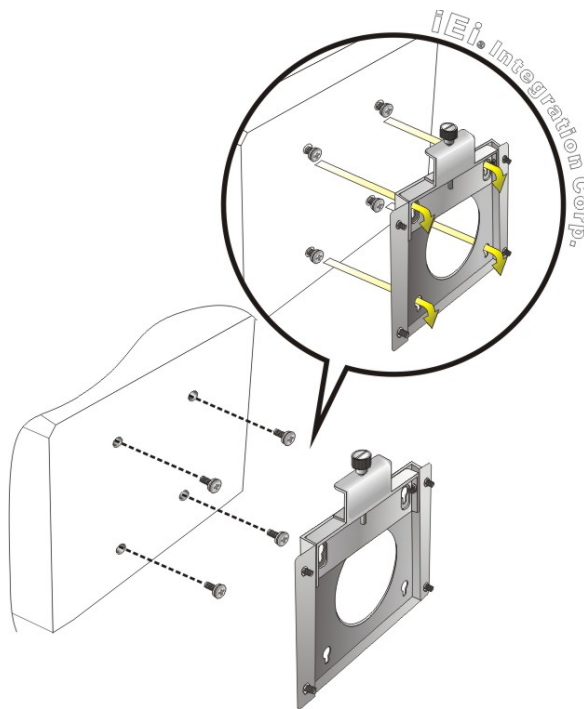

Figure 3-22: Chassis Support Screws
Step 6: Insert the four monitor mounting screws provided in the wall mount kit into the four screw holes on the rear panel of the panel PC and tighten until the screw shank is secured against the rear panel (**Figure 3-22**).
Step 8: Carefully insert the screws through the holes and gently pull the monitor downwards until the monitor rests securely in the slotted holes (**Figure 3-22**). Ensure that all four of the mounting screws fit snugly into their respective slotted holes.